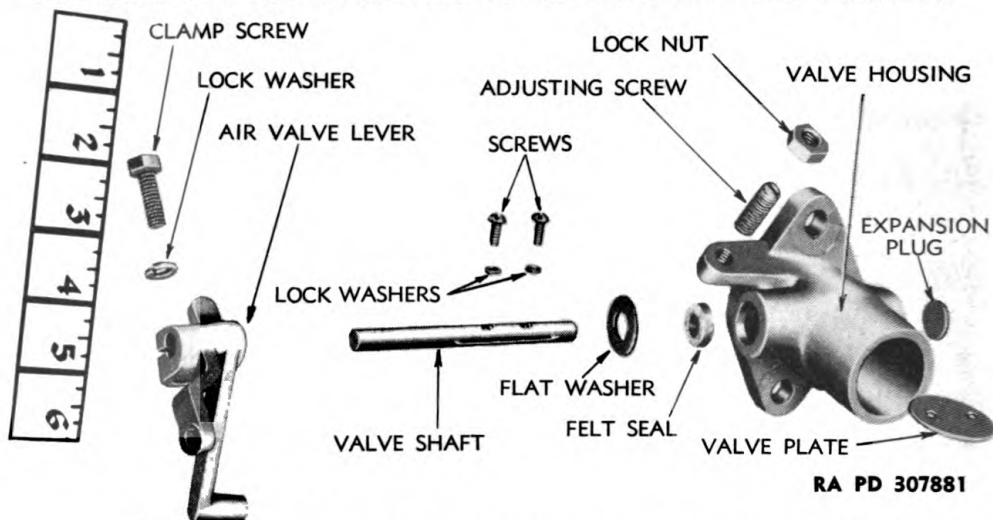

Figure 75 — Air Valve Assembly Disassembled
b. **Disassembly of Air Valve** (fig. 75). Loosen clamp screw in lever, spread clamping part of lever, and pull lever from valve shaft. Remove washer and felt seal behind lever from shaft. Working from bottom of valve, remove the two screws in shaft and slip the valve plate out of slot in shaft. Tap on end of shaft projecting from side of valve body with soft hammer and drive shaft out of body. The expansion plug on opposite end of body will be driven out at same time.